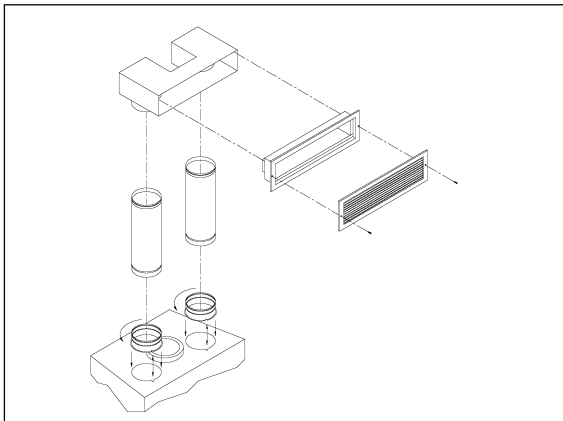

Figure 14
1. *Single hot air outlet including: (see Fig.14)*
1. Remove the plates closing up the 8" dia. holes on top of the fireplace. Then, cut the insulation in order to obtain two 8" dia. openings. Fix the adaptors on the fireplace openings by turning clockwise (figures 14 and 15).